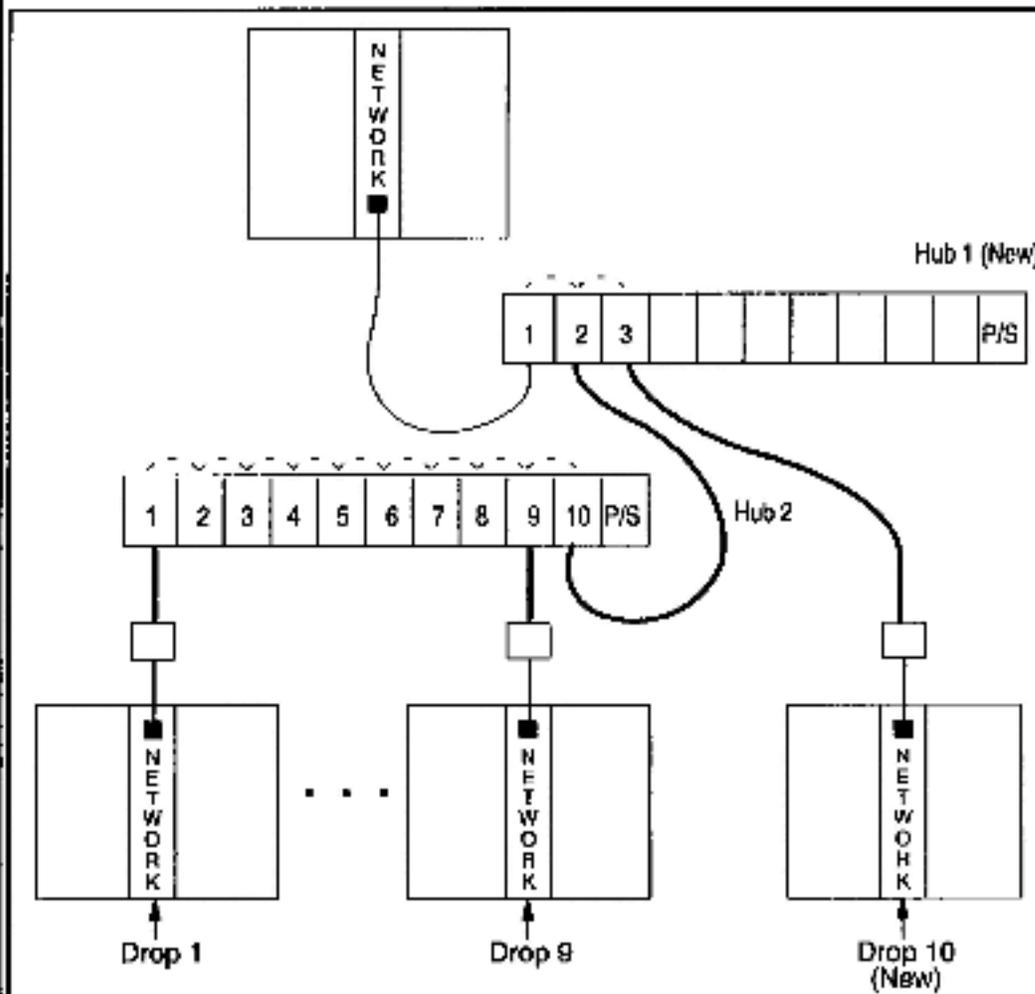

Figure L2.7 - Adding a Network Drop
- Step 6. Install the new Rack-Mounted Transceiver following the instructions provided in section L2.3. If the transceiver rack is full, install another rack following the instructions provided in section L2.3 and connect the transceivers as shown in figure L2.7.